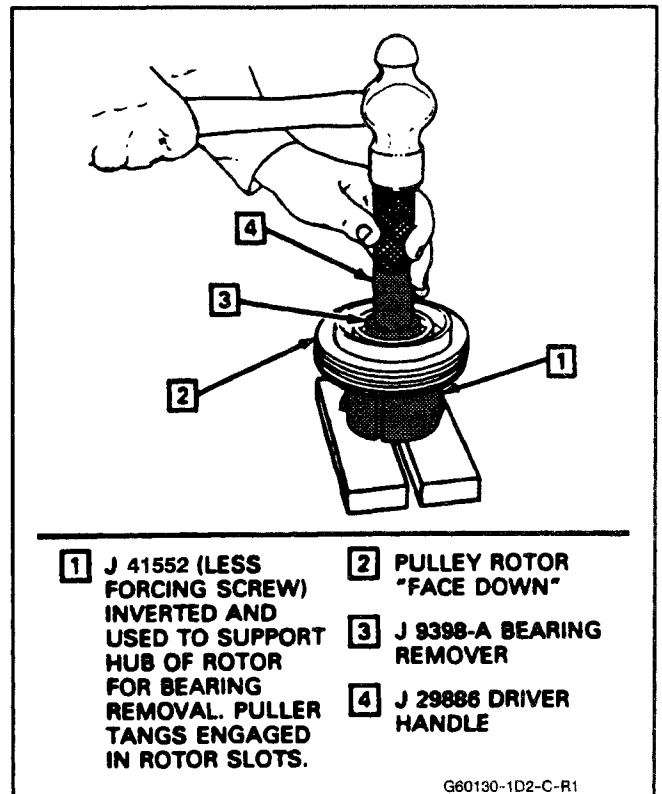

Fig. 9 Pulley Rotor Bearing Removal
Remove the forcing screw from J 41552 puller and, with the puller tangs still engaged in the rotor slots, invert the assembly onto a solid flat surface or blocks as shown in Figure 9.
6. Drive the bearing out of the rotor hub with rotor bearing remover J 9398-A and J 29886 universal handle (Fig. 9).